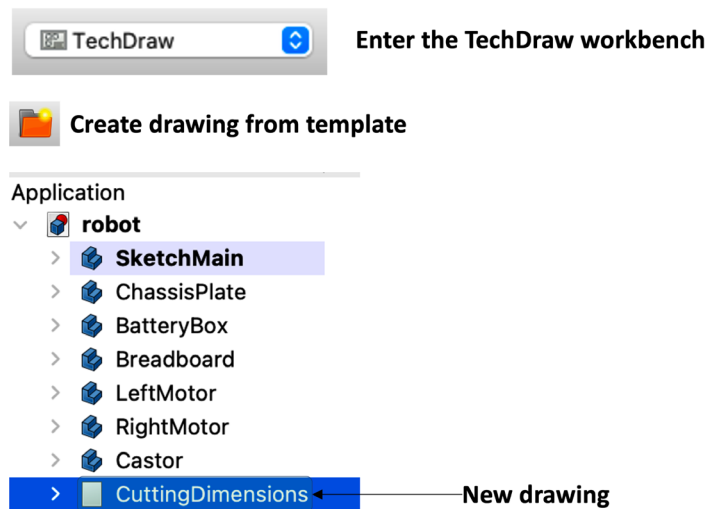

Figure 3.29 – Preparing a drawing page
1. First, from the **Model** tree, select **ChassisPlate** as shown in the top left in *Figure 3.29*. This will take you to the 3D view.